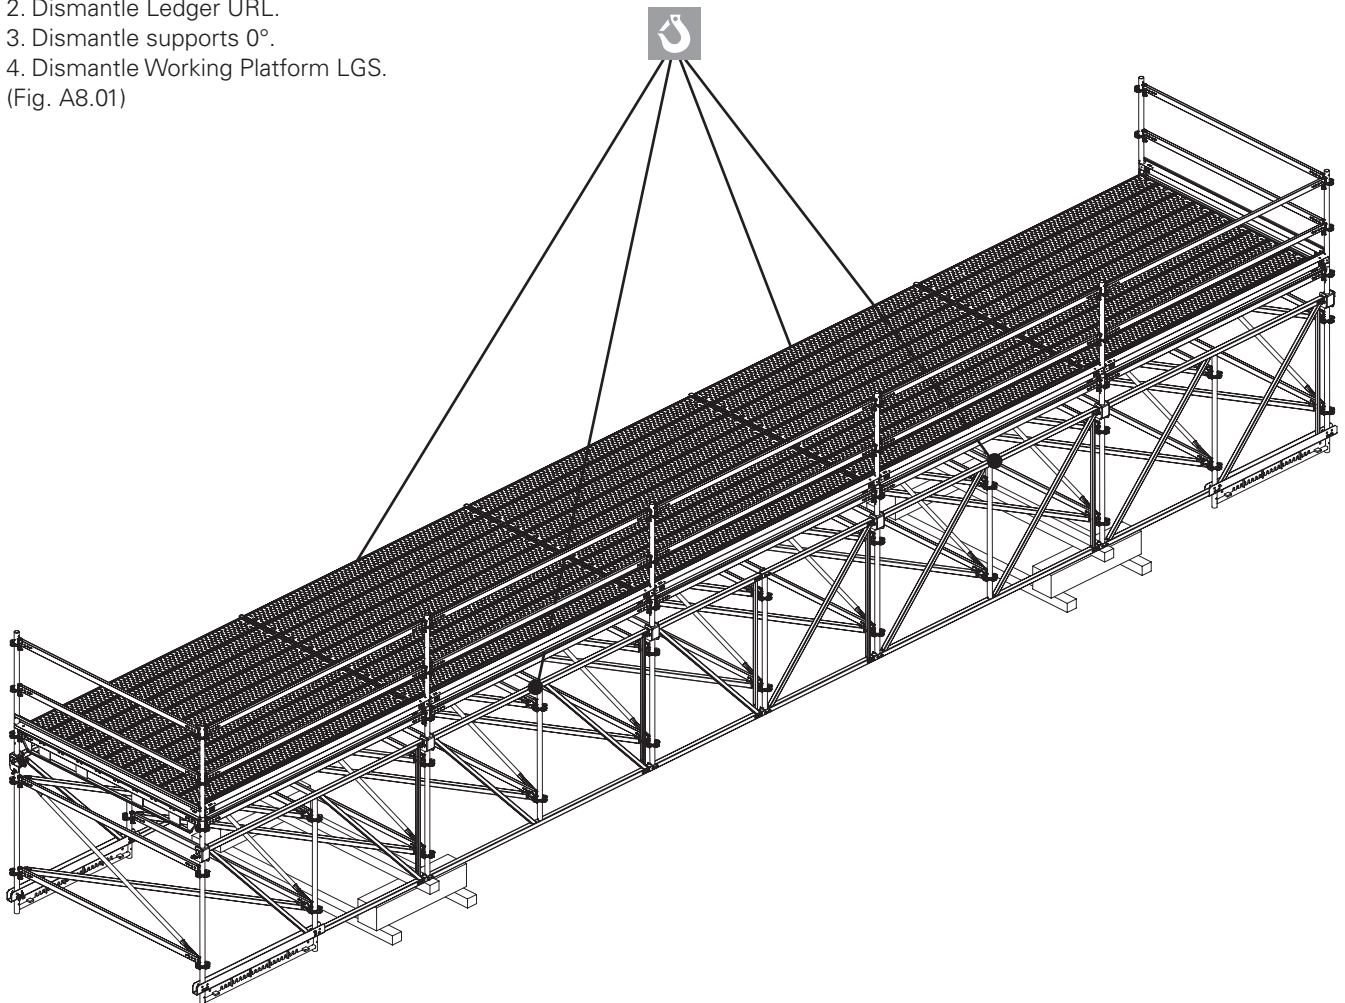

Fig. A8.01
4. Dismantle Working Platform LGS. (Fig. A8.01)